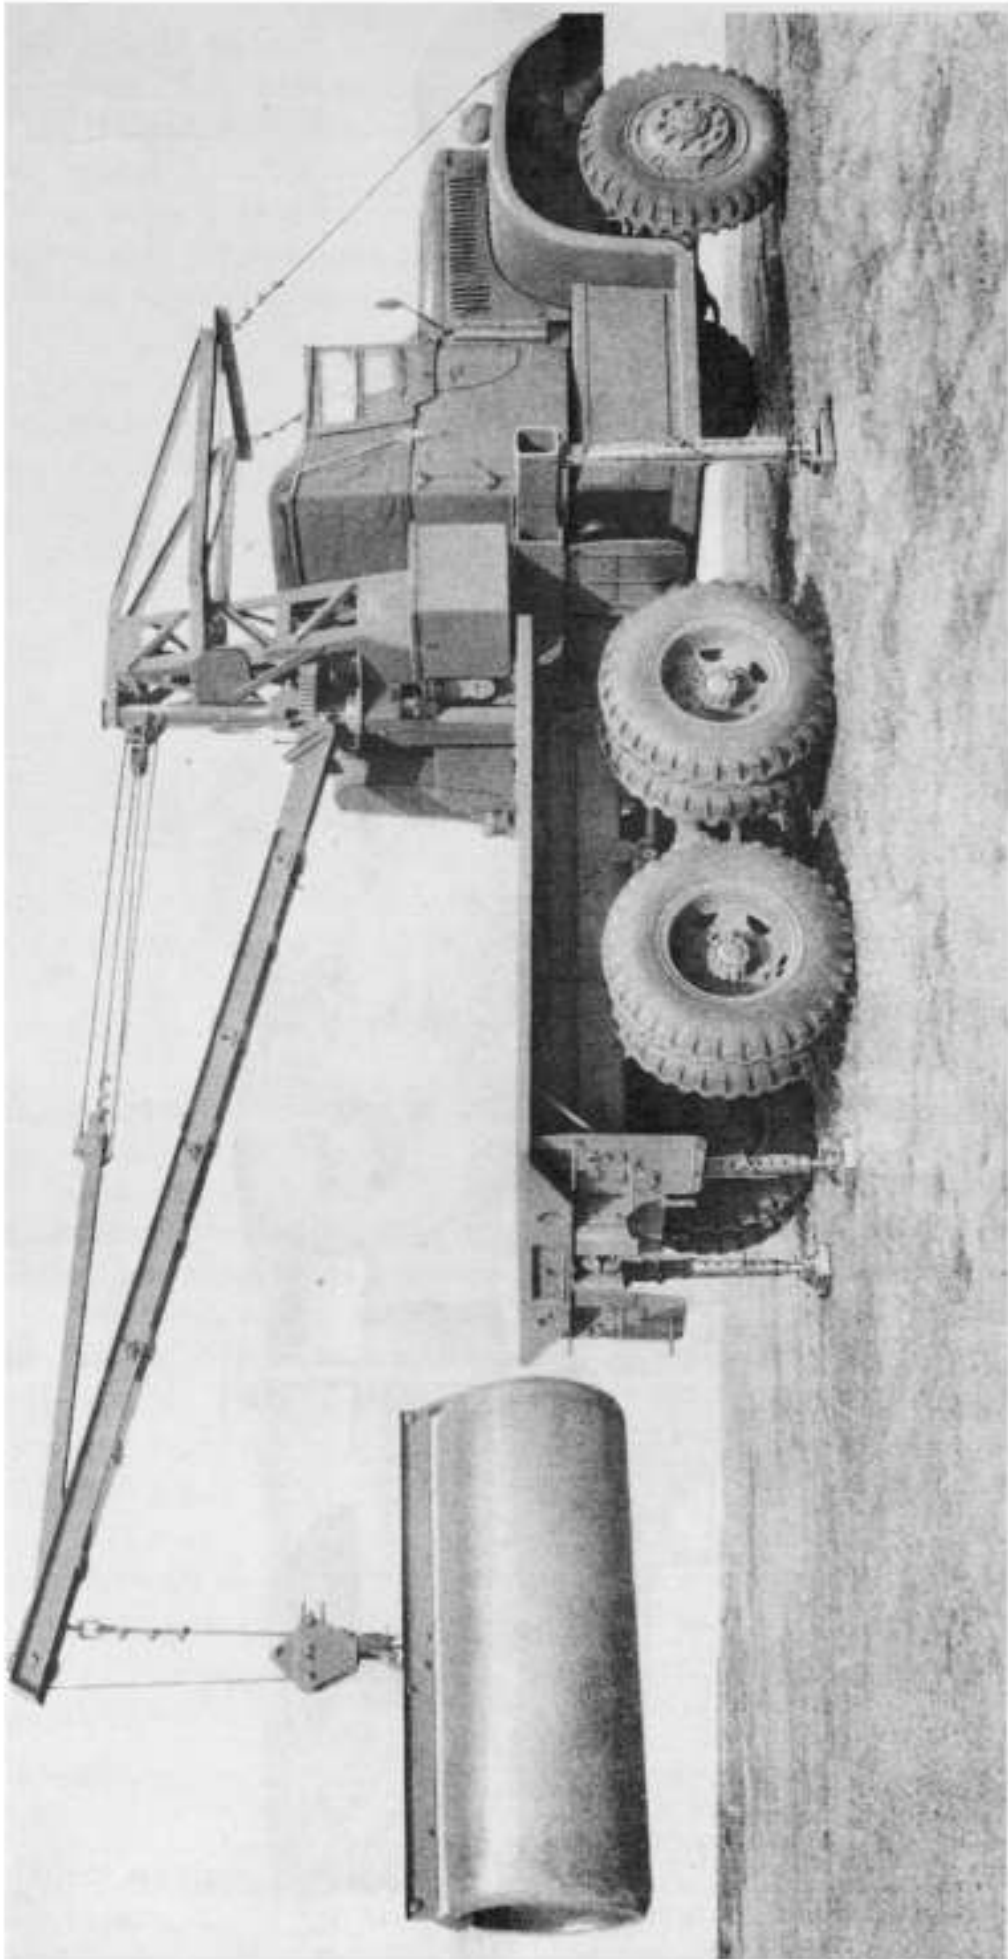

Figure 1—Swinging boom crane truck M1—right side.
a. General. This equipment consists of a swinging boom crane mounted on a 4-ton, 6 x 6 chassis. It is used primarily for lifting and moving bulk containers of 1-ton capacity in field filling operations (figs. 1, 2, and 3). Operational components of this equipment are: